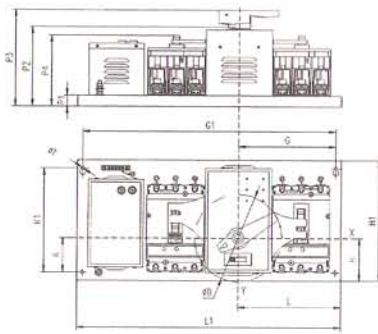

Fig .2 ATNS 100/ 160 / 250 / 400 / 630
- For form and dimension of ATNS, please refer to the Fig.2 , and Table 2